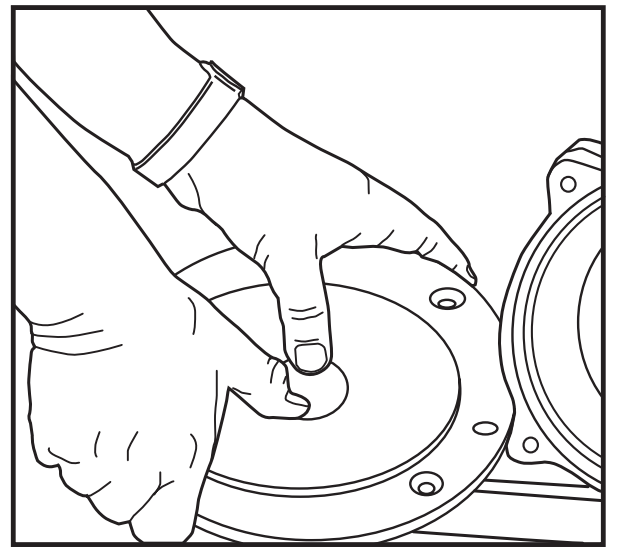

Fig. 21
12. Place seal in seal cavity loosely and using cardboard protector use both thumbs to press seal into seal plate. The cardboard protector can be moved about to insure seal is pressed in evenly. See Figure 21.